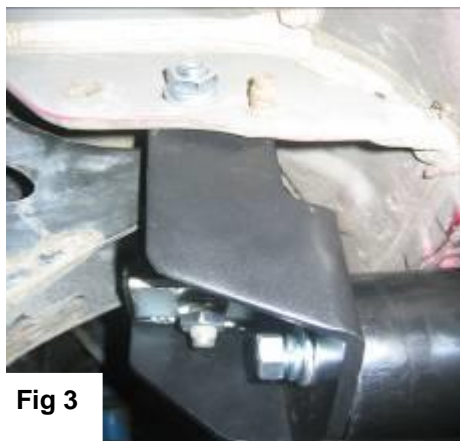

Fig 3
3. **Bracket Installation:** Leave the OEM nut on the body mount stud. Attach the front mounting bracket to the vehicle body mount as shown using the spacer plate, 7/16" flat washer, 10mm lock washer and 10mm hex nut. Do not tighten. (See Fig 3, Fig4).